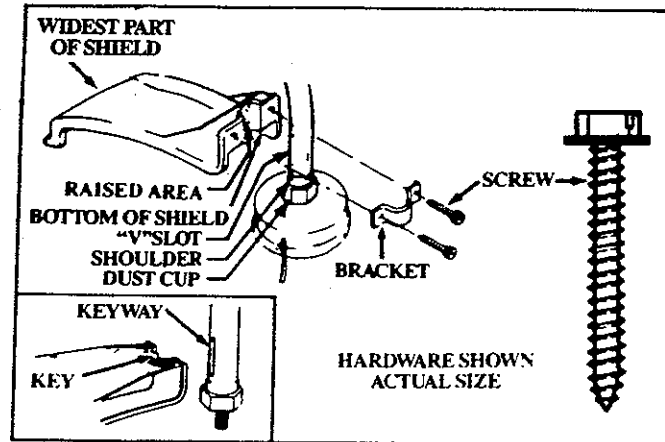

Figure 4
3. SHIELD — Figure 4
Failure to install the shield in the position shown in Figure 4 and 5 can result in serious injury to the operator. The length of the shield must be aligned with the length of the drive shaft housing. Direct the widest part of the shield toward the engine.
- Match the Key (Raised area) on the Shield with the Keyway ("V" slot) on the Drive Shaft Housing. Figure 4(Insert).
- Install the Bracket and Screws as shown in Figure 4.